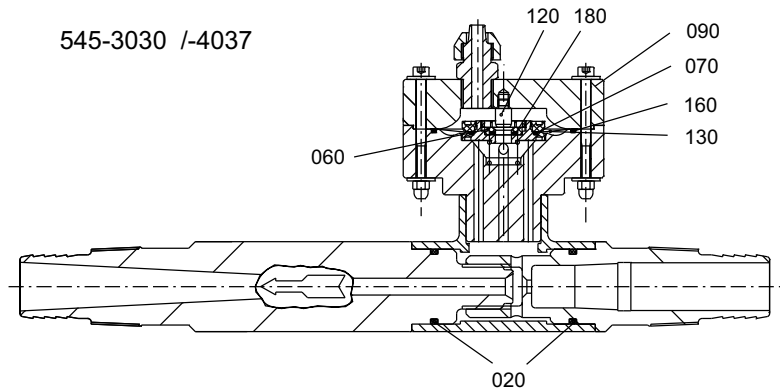

fig. 10 Assembly diagram, 545-3030/-4037 injectors
- Remove the upper part (pos. 090, see fig. 10).
- Unscrew the piston (pos. 120, see fig. 10).
- If necessary, replace the O-ring (pos. 160, see fig. 10).
- Remove seat (pos. 060, see fig. 10) and O-ring